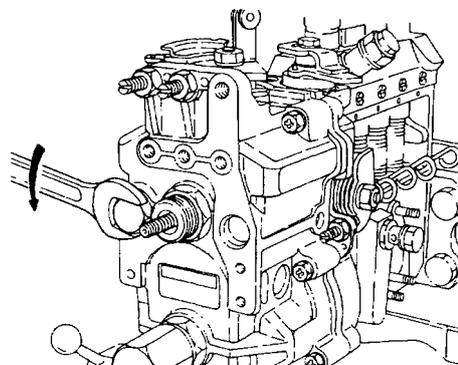

Figure 83 Removing the Torque Cam Rod Adjuster Plug
- f. Remove the 19 mm plug covering the torque cam rod adjuster (Figure 83).